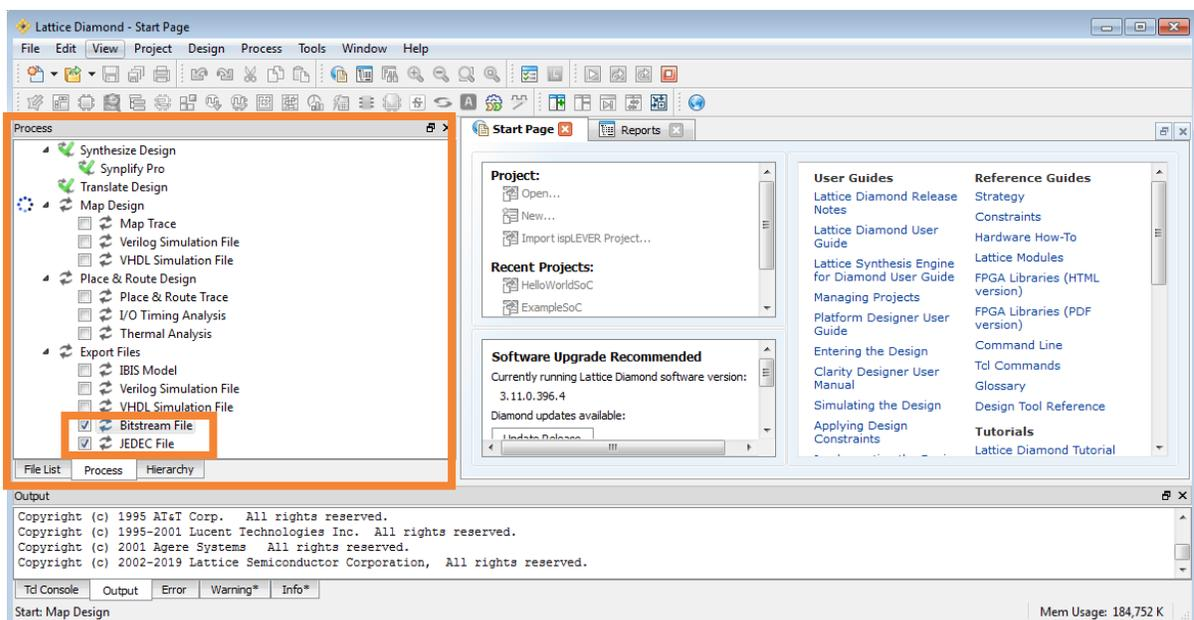

Figure 4.5. Generate Programming File
3. Switch to **Process** view of the Diamond project and make sure **Bitstream File** or **JEDEC File** is checked in the **Export Files** section (Figure 4.5).